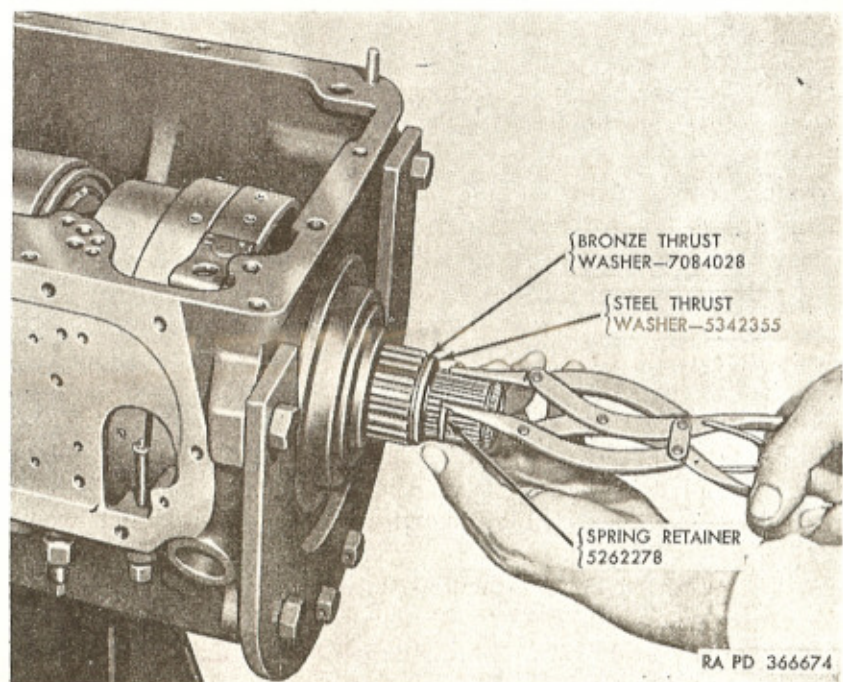

Figure 188. Installing spring retainer on intermediate shaft.
f. Install the bronze thrust washer; then install the steel thrust washer (fig. 188) over intermediate shaft against front end of front drive gear. These washers were tied together during disassembly.
- g. Install spring retainer (fig. 188) which holds thrust washers in place on intermediate shaft.